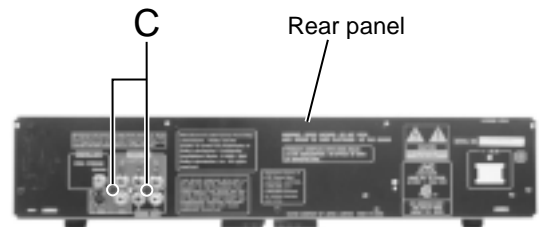

Fig.20
■ Removing the search switch board (See Fig.20)